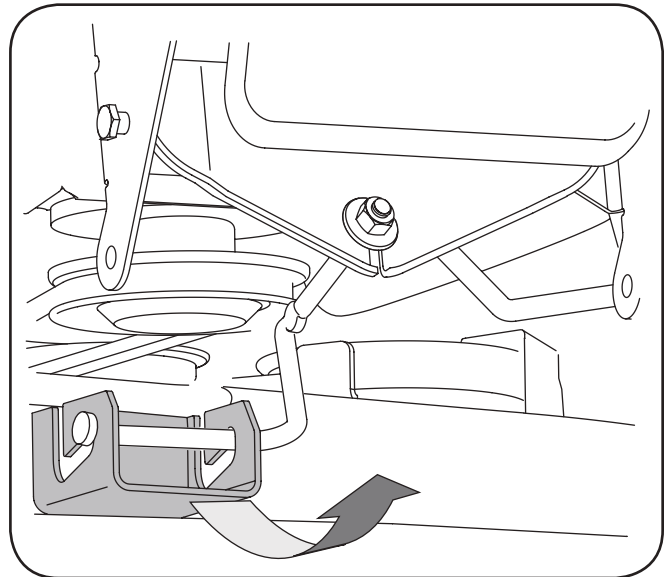

Figure 7-3
8. Gently slide the cutting deck toward the front of the tractor carefully guiding the hooks on the deck off of the deck stabilizer rod. See Fig. 7-3